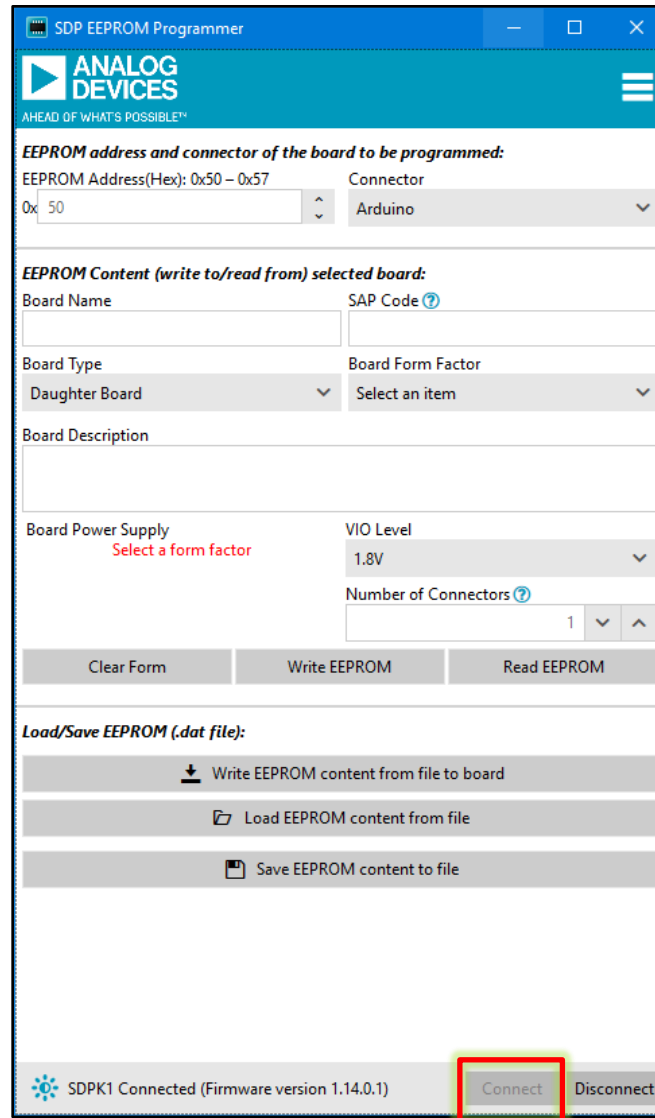

Figure 12. SDP-K1-connected Window
- On the bottom right portion of the window click on Connect. The main window will change the display as shown in Figure 12.